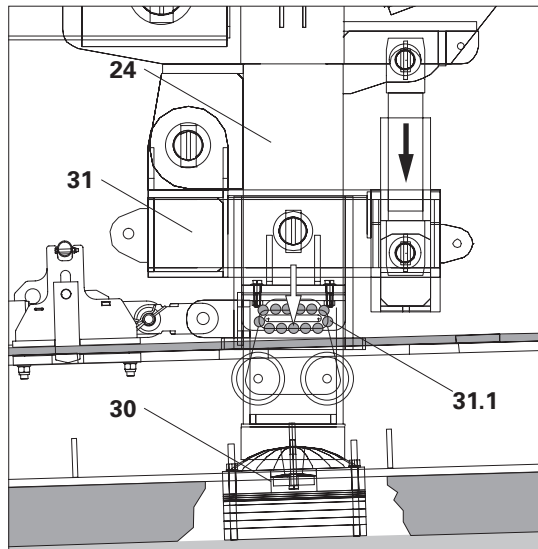

Fig. B4.03
1. Extend the front main cylinder (2).
- Front carriage (31) moves downwards until the roller bearing (31.1) is positioned on the rail (8). (Fig. B4.03)